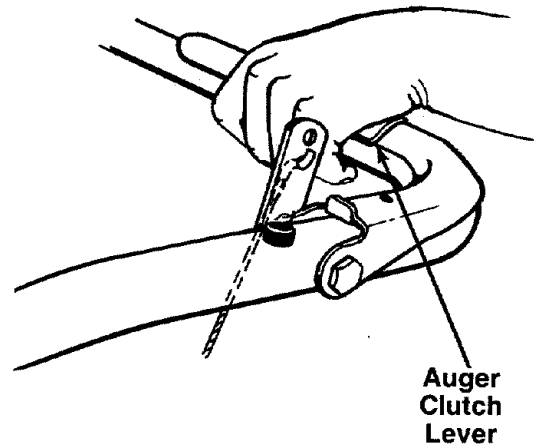

FIGURE 28.
3. Squeeze auger clutch lever all the way down against the handle as shown in figure 28, and check the position of the brake linkage. It should be against the idler pulley. See figure 29. If necessary, adjust the ferrule on end of auger cable until the slot on brake linkage is over against the idler pulley with the auger clutch lever all the way down against the handle.